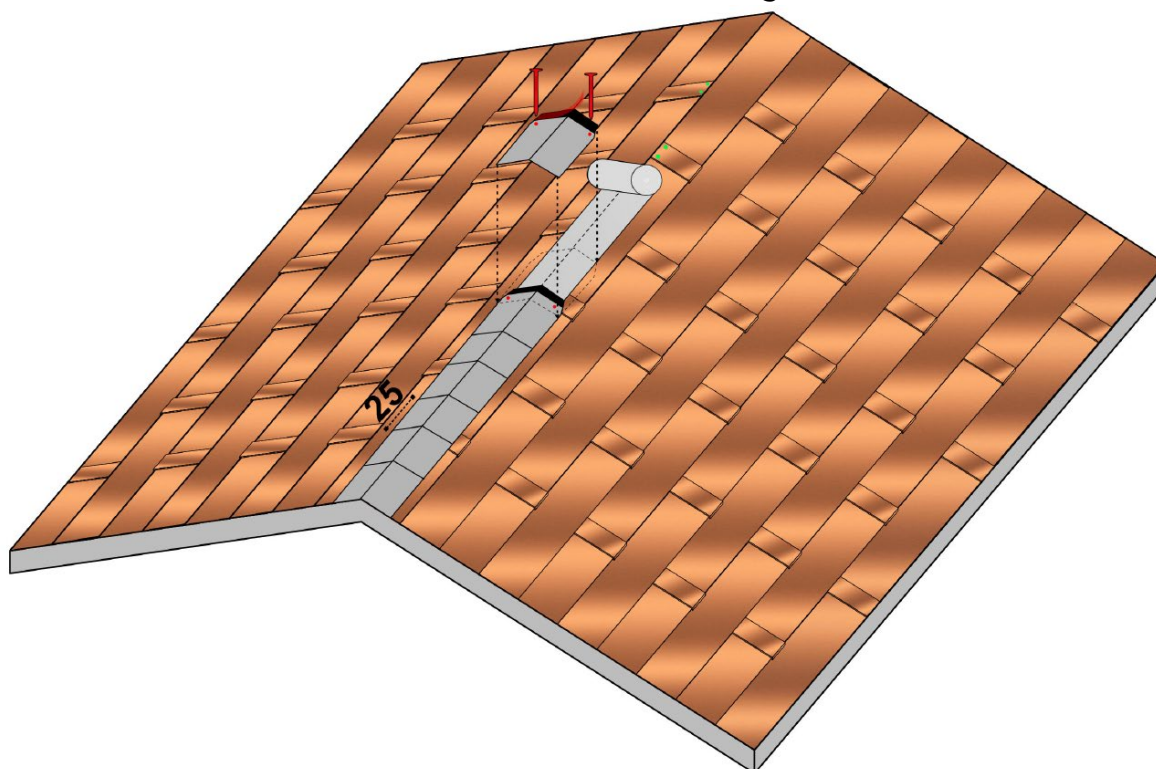

Fig. 14 - Top Roll and ridge elements installation
- Place the Top Roll SA along the center of the ridge line, removing the protective film from the underside of the roll that covers the butyl tape. This will waterproof the ridge itself where the ridge shingles are cut. - Fig. 14. Fix the ridge components onto the Top Roll Colmo SA with 2 nails, each at least 32mm in length, one nail for each side of the pitch - Fig. 14